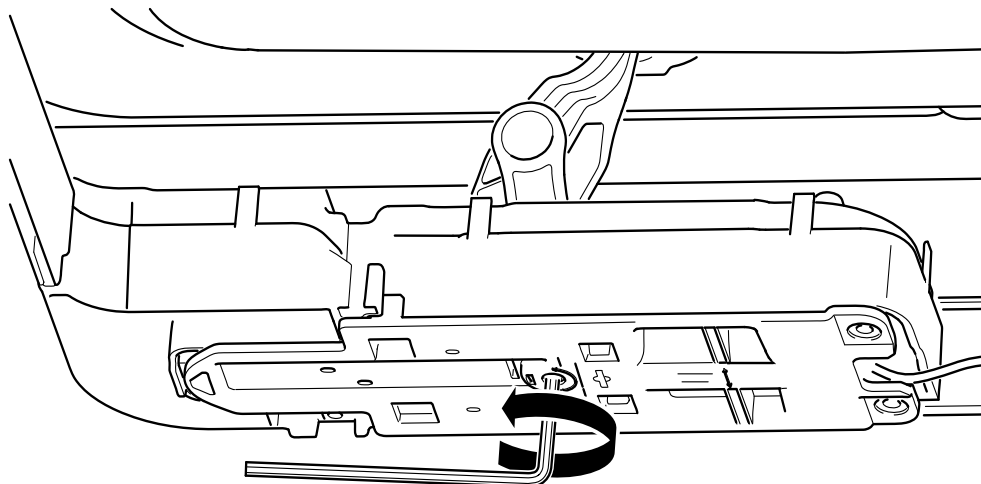

Fig. 501 Manual readjustment
3. Locate the hole in the bottom of the lifting mechanism (see Fig. 501), insert an Allen wrench (6mm) and turn it in the desired direction